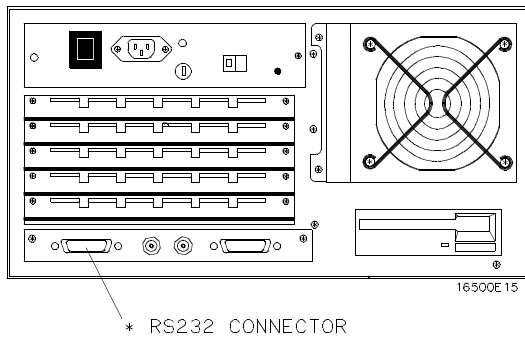

Figure 7-5. HP 16500A Rear Panel.
- The HP QuietJet series printers have two banks of mode function switches inside the front cover. Push all the switches down to the “0” position as shown in figure 7-5.